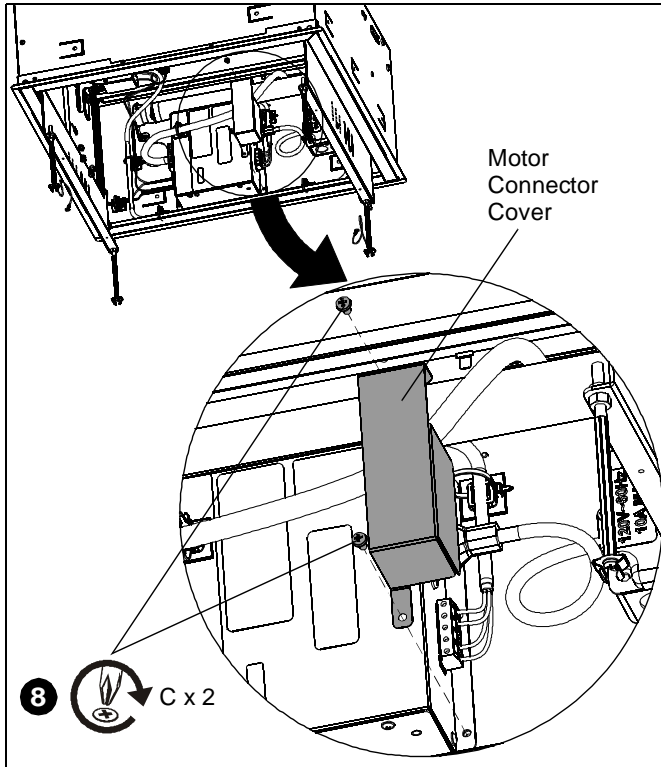

Figure 7
8. Replace motor connector cover and reinstall two Phillips screws (removed in Step 5 of **Removing Control Box** section), or two Phillips 8-32 x 5/16" screws (C). (See Figure 7)